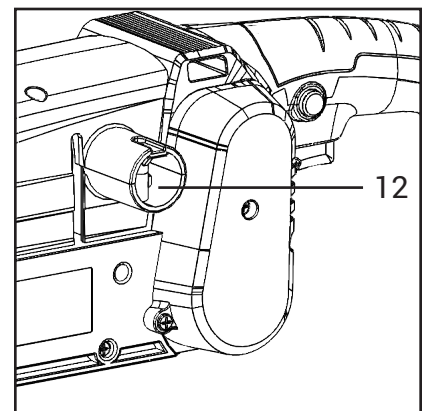

Fig. 4
- Push dust box onto the dust port on the side (Fig. 4 - 12).
1. With the dust box removed, attach the dust hose of your dust extraction system to the dust port (Fig. 4 - 12). You may install the dust port adapter, or reducer to adjust the size of the dust port to fit your dust hose.